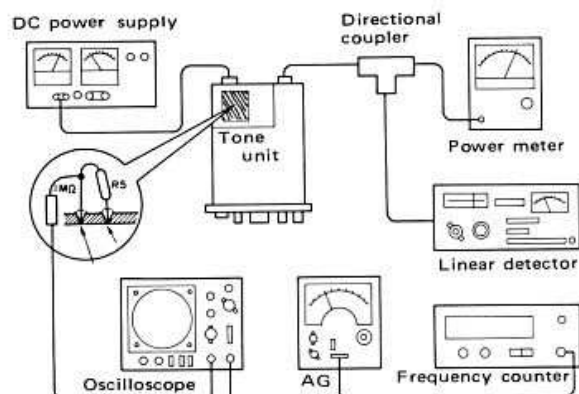

Fig. 27 Tone Unit Adjustment
- (2) Connect the test equipment to Fig. 27.
- (3) Adjust VR1 until the wave of oscilloscope reads circle.
- (4) Check that. Set the AUX switch is at OFF. Set the transceiver ready for transmission. The linear detector reads more than $\pm 2.5\text{ kHz}$.
- (5) In case of T type, when change to transmitter from Receive. Adjust VR2 until take a modulation at 0.7 sec.